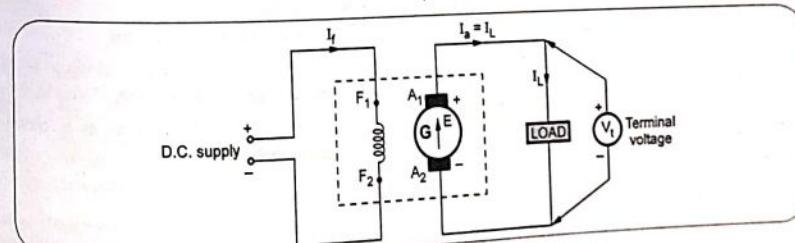

Fig. 7.8.1 Separately excited generator
- The schematic representation of this type is shown in the Fig. 7.8.1.